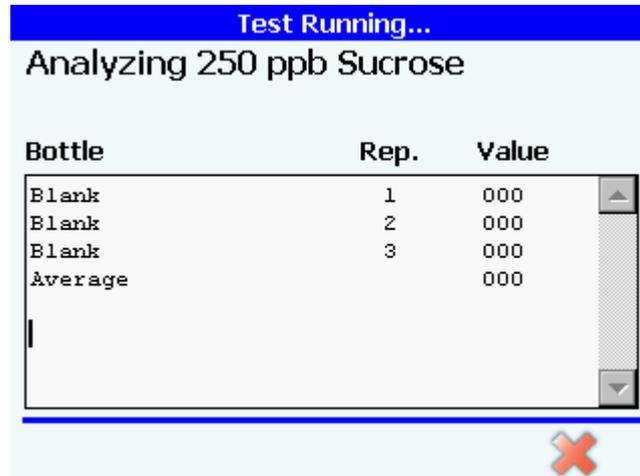

Figure 6-9 Test running dialog box
- **Run now button** takes you to the run test dialog box. Figure 6-9.
- 10) When the test running dialog box appears, the analyzer begins running the test. See Figure 6-9.